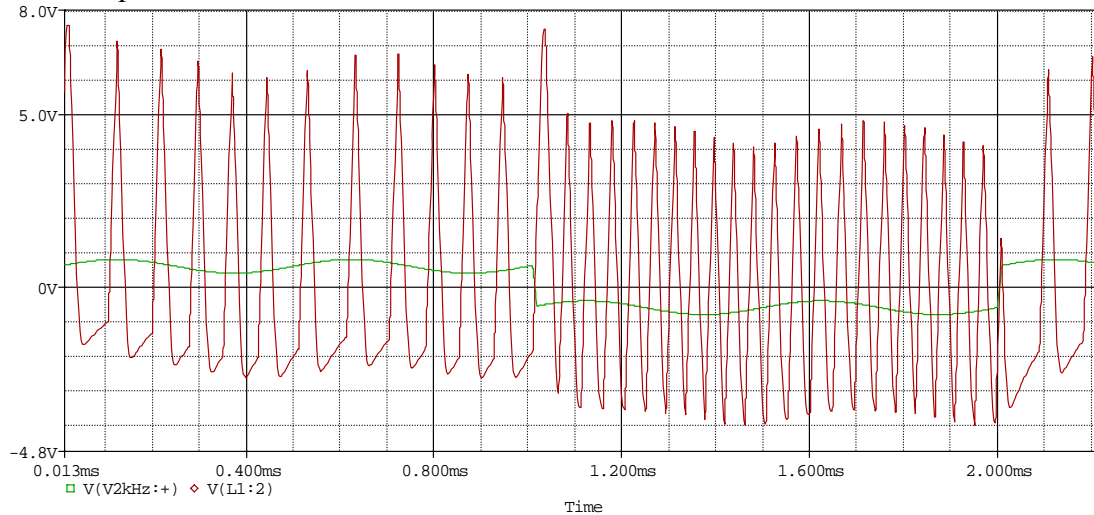
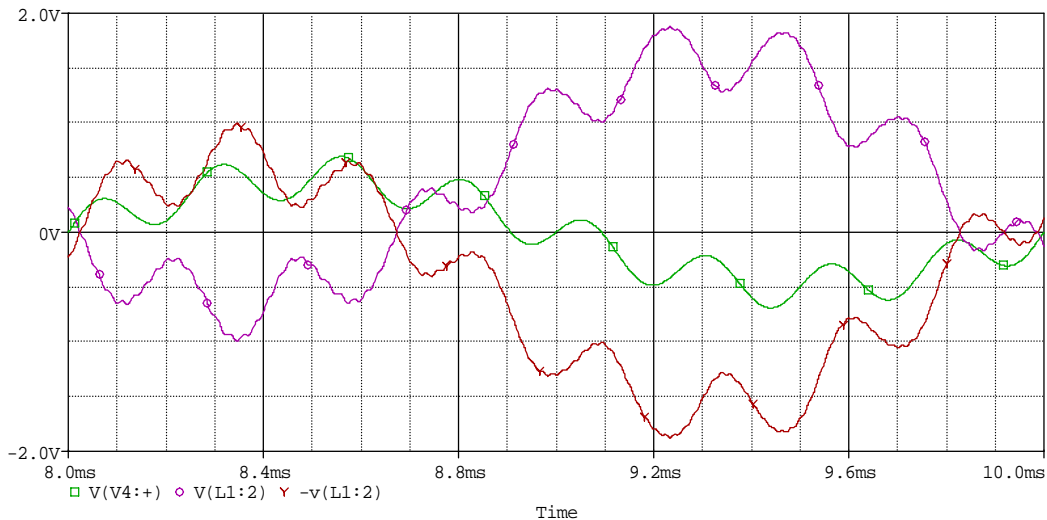

Figure 7 – Input and output traces
Figure 12
*Run the simulation:* Start by running the simulation provided. Remember that the initial design should give you a poor quality reproduction of your input signal. Therefore, you should expect the model of the initial design to give you a poor quality reconstruction of the signal at the output. The input (point A) and output (point H) of the simulation should look something like figure 7. The figure below shows 2ms of the traces. The input trace has one cycle of the lower frequency square wave (at 500 Hz) with four cycles of the higher frequency wave (at 2k Hz) superimposed on it. As you can see, the output shows some of the features of the input, but it consists mainly of the high frequency samples taken by the 555-timer oscillating between about minus 5V and plus 5V.
*Determine your sampling frequency:* The sampling frequency in the PSpice model is representative of a good sampling frequency for your circuit. It is hard to determine exactly what this frequency is by looking at the pulses because the frequency of the pulses changes with the input signal. You can get a reasonable average by averaging over several samples in figure 7 or by calculating the frequency of the 555 timer circuit using the astable mode equations and the values of the components in the R-R-C combination (10k-27k-0.001u). Be sure that the PSpice frequency and the actual sampling frequency of your transmitter circuit match reasonably well when you take your data and design your integrator. In the actual circuit, you can match the frequencies either by turning the 100K pot in the actual circuit, replacing the 100K pot in the circuit with a 10k resistor, or by changing resistor R3 in the PSpice model.
*What the smoothing capacitor should do:* Recall that when you added a smoothing capacitor to the output of a rectifier, the bumps from the rectified signal were smoothed over and the output was much more even. You can apply this concept to the signal in this circuit as well. If we add a smoothing capacitor of the correct size between point F and ground, we should be able to smooth out the pulses caused by the sampling and come up with an even closer reconstruction of the original audio wave. Figure 12 shows the result of adding a smoothing capacitor to the integrated signal. It shows the original input (at point A), the output of the circuit (at point H), and the inversion of the output (at point H). Note that the original input frequencies have been preserved, but the pulses (that are shown in figure 9) have been largely eliminated. Aside from a change in amplitude, a slight time delay, and some inconsistencies in DC offset (caused by the integration), the input and the output are now very much the same. You can see that this is a substantial improvement over the initial data shown in figure 7.